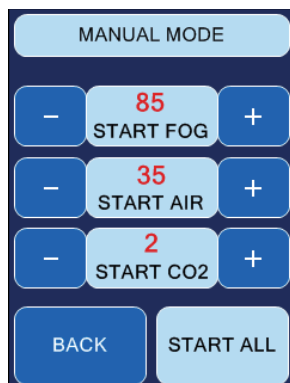

Fig. 4 Manual Mode
Press **MODIFY** at the main screen (*Fig. 1, see next page*). The screen switches to MANUAL MODE (*Fig. 4*). Adjust a CO₂ value higher than 0 with the +/- button (*line 4*) and press **START CO₂** (*line 4*).
The screen now changes to **MANUAL MODE** (Fig. 4) (where also the values for the individual presets can be changed), now showing **STOP** instead of **START** because the fogging process has already been started. You can stop the fogging process by pressing **STOP ALL**.
- Press **MODIFY** (line 3) at the main screen (Fig. 1) and adjust the requested values for fog, air and CO₂ at the currently displayed MANUAL MODE-screen (Fig. 4), using the **PLUS** or **MINUS**-buttons.
- Press **MODIFY** at the main screen. The screen switches to Manual Mode (Fig. 4).